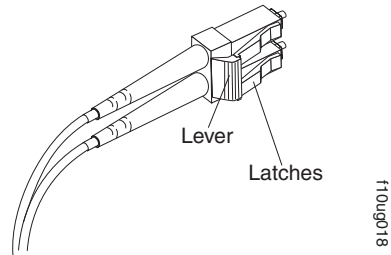

Figure 43. LC-LC fibre-channel cable lever and latches
1. On the end of the LC-LC cable that connects into the SFP module or host bus adapter, press down and hold the lever to release the latches, as shown in Figure 43.